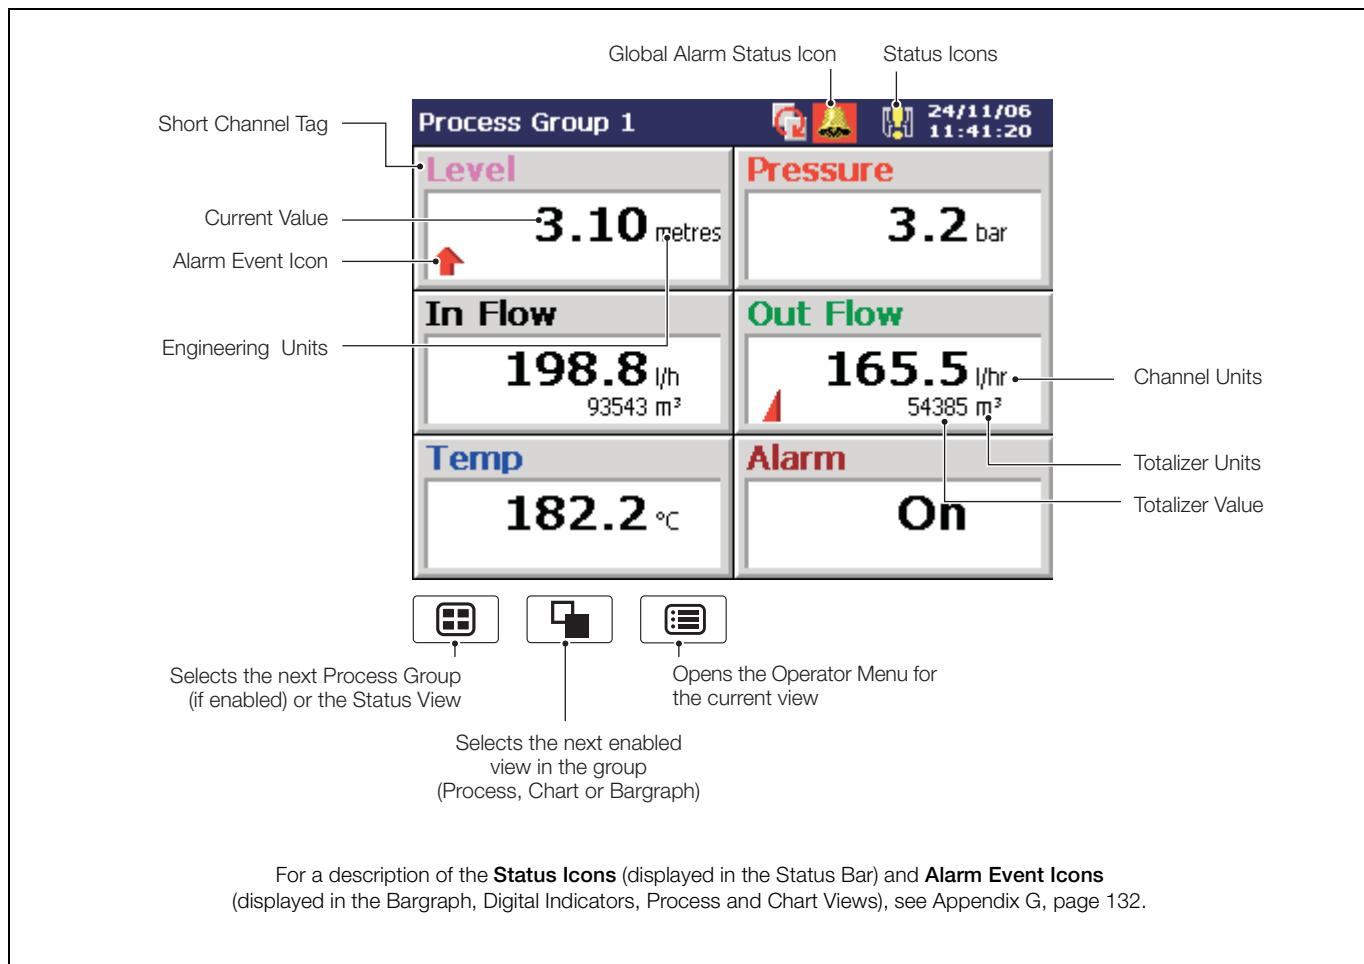

Fig. 2.6 Digital Indicator View
2.5 Digital Indicator View – Fig. 2.6
Note. Active unacknowledged alarms in the current process group are identified by a flashing red Alarm Event icon in the bottom left hand corner of the associated indicator. Active acknowledged alarms are identified by a continuous red Alarm Event icon in the bottom left hand corner of the indicator – see Fig. 2.6, page 17.